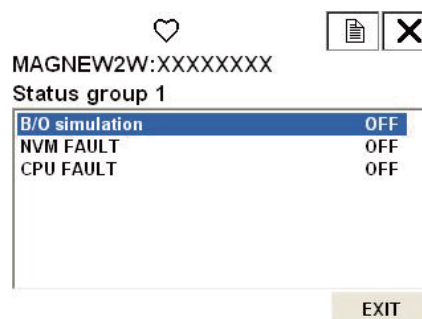

Fig. 7-91.
2. There are 3 groups. Each group has different items to be verified. Fig. 7-91. shows an example of “status group 1”.